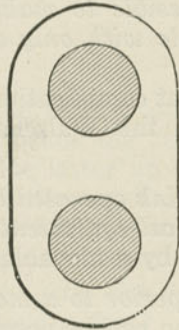

Fig. 175. Crank Axle.
*A.* Yes, cranks might be used, the eccentric being in effect a crank, the pin of which is so enlarged as to include the shaft. Thus, ordinarily, the crank-pin is smaller than the shaft and at some distance therefrom; in Fig. 175, it is of the same size; in Fig. 176, the pin is larger than the shaft, but does not inclose it; in Fig. 177, the pin not only is larger than the shaft, but incloses it and has become an eccentric.